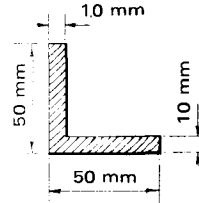

Fig. 1.48
- Fig. 1.48 shows the cross-section of an angle bar which is 250 mm long. Calculate its volume.